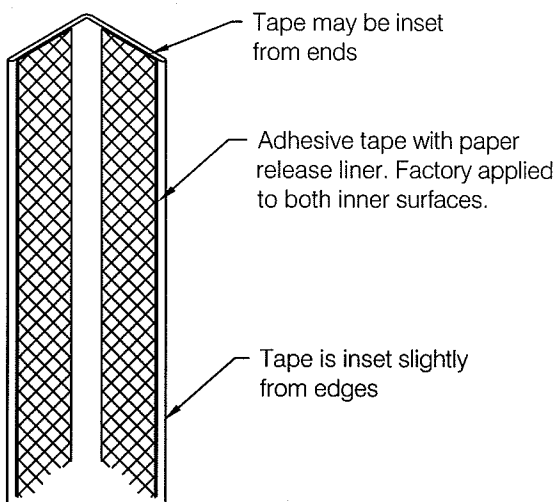

fig 1
- Step 1:** This series of corner guards is supplied with a closed-cell foam adhesive tape applied to the inner surface of each wing. The adhesive tape is applied to the full length of the corner guard, see **fig 1**.